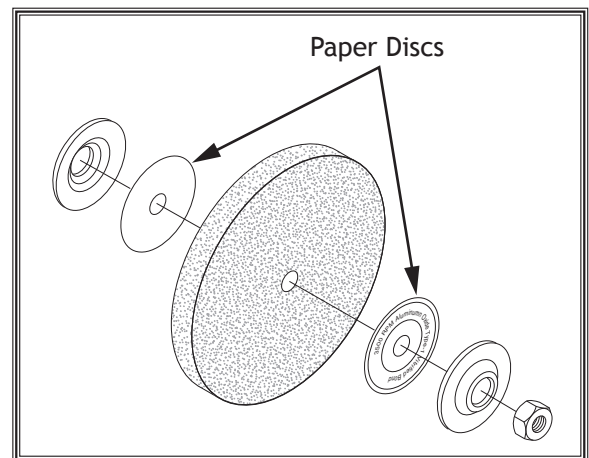

Figure 19. Assembly order for wheel installation.
5. Remove grinding wheel from spindle. Take note of paper or fiber disc between wheel flanges and wheel (see Figure 19). These cushion the pressure of the wheel flanges and help distribute pressure more evenly. They also help reduce damage to the flanges.
7. Mount new grinding wheel, as shown in Figure 19. Tighten arbor nut snugly but do not over-tighten to avoid stressing and cracking wheel.